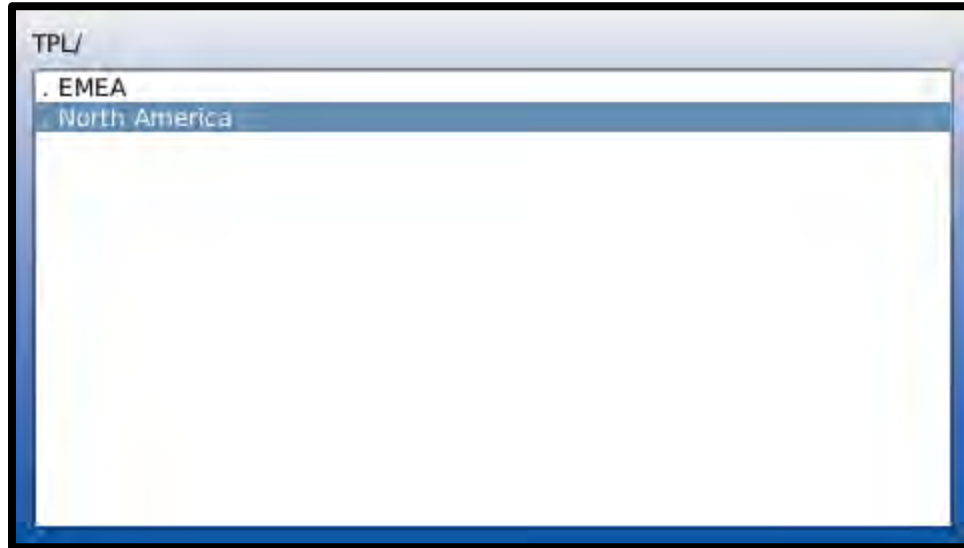

Figure 5.2
- a. Press “left” to load a ValvApp from the built-in library. Wait for the next screen and highlight “North America” as shown in **FIGURE 5.2**. Press “OK”.